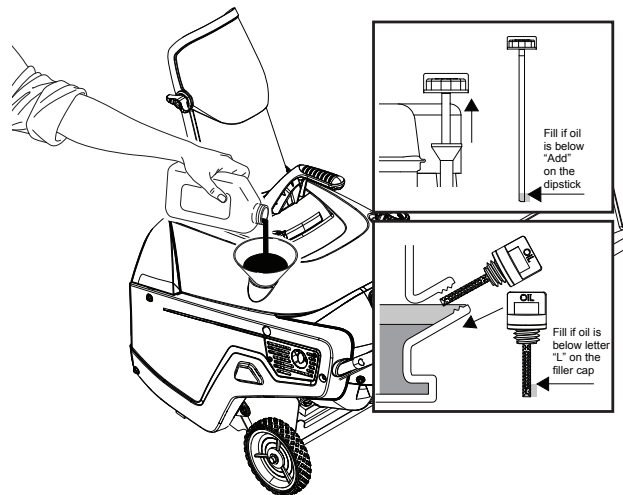

Figure 24
9. With the snowthrower in the operating position, carefully pour oil into the oil fill hole until "Full" on the fill cap/dipstick line (Figure 24).